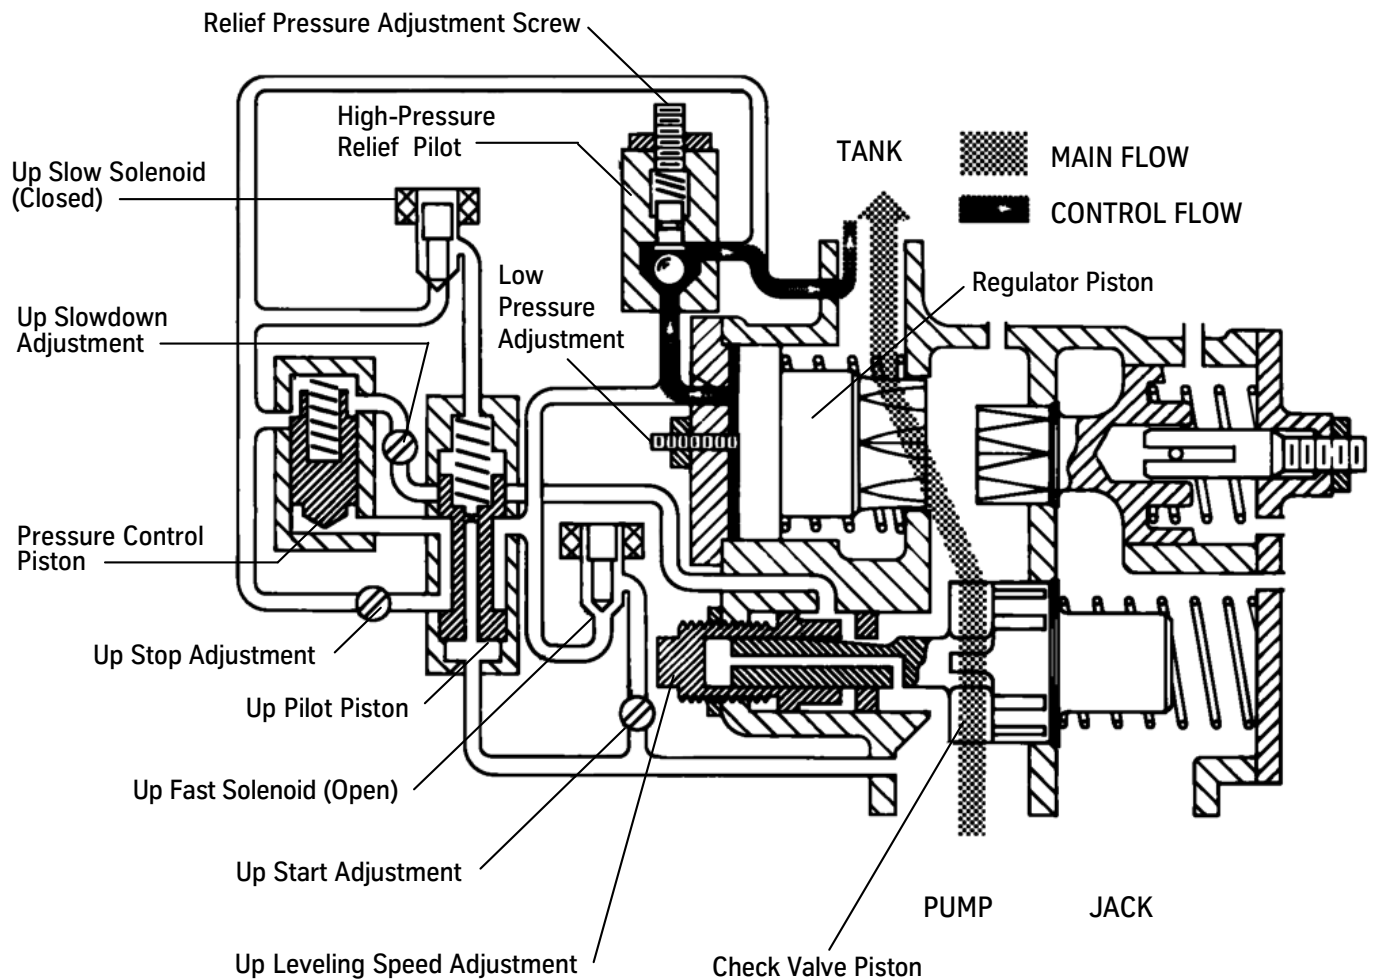

Figure 8 - High-Pressure Relief Diagram
1. The oil is transmitted to the high-pressure pilot. See Figure 8.